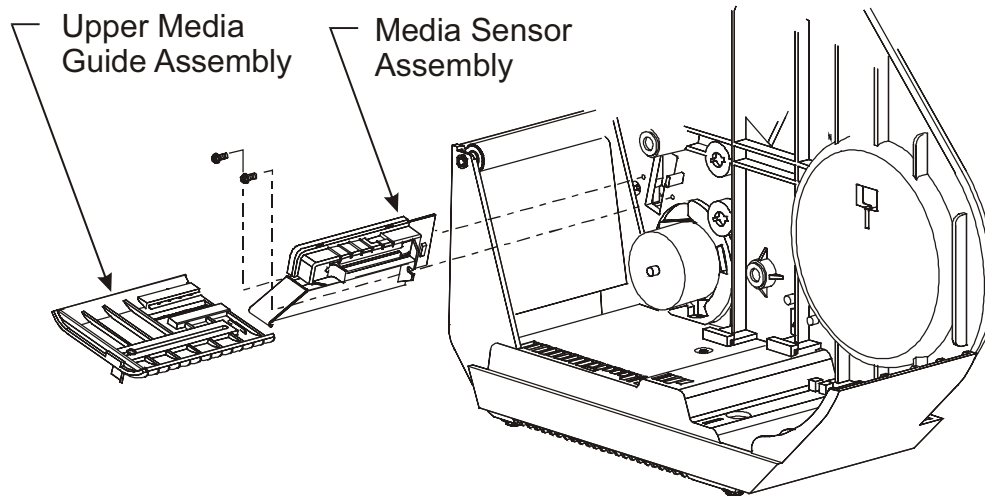

Figure 3.
13. Carefully slide out the upper media guide assembly (see Figure 3).
15. Using a long reach magnetic tip Phillips screwdriver, carefully remove the two mounting screws (see Figure 3).